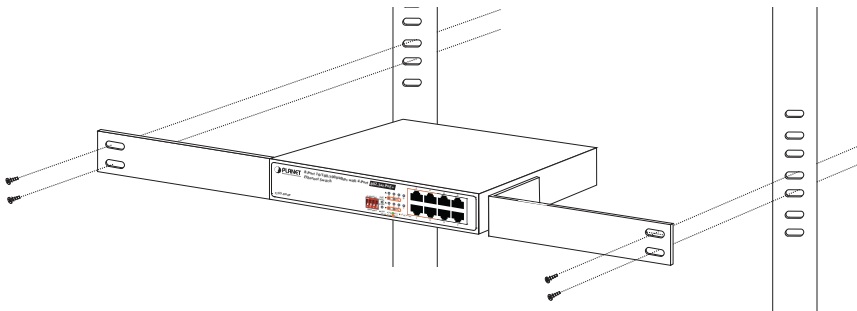

Figure 3-3: Mounting the GSD-804P in a Rack
Step 5: After the brackets are attached to the GSD-804P, use suitable screws to securely attach the brackets to the rack, as shown in Figure 3-3.